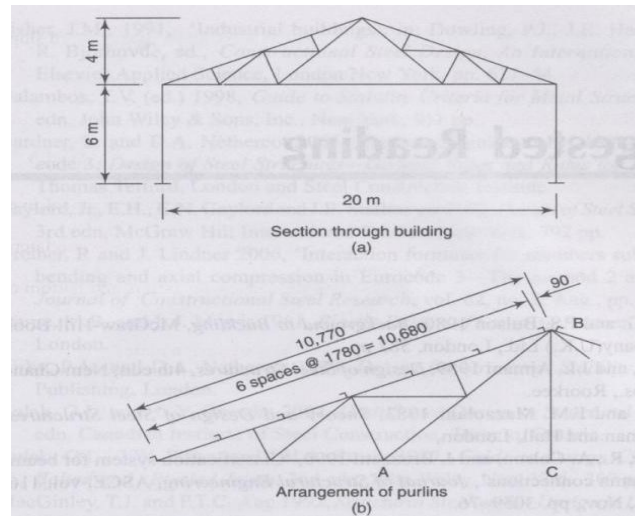

Figure-1
- An industrial building is shown in figure-1. the frames are at 5m centres and the length of the building is 40m. The purlin spacing of the roof is as shown in figure-1. The Building is situated in Mumbai. Assume live and wind loads as per IS875 (part 2 and Part 3) and the roof is covered with GI sheeting. Design the roof truss using tubular sections. The truss is to be fabricated using welded joints in two parts for transport and assembled at site using bolted joints at A,B and C as shown in figure-1(b).